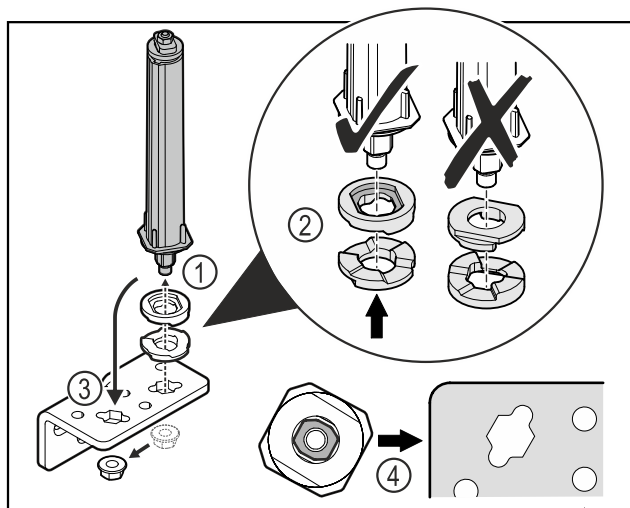

Fig. 20
- Loosen the nut and remove the door closing system Fig. 20 (1).
- Observe the correct alignment of the height adjustment washers Fig. 20 (2).
- Put the door closing system in the hinge and fix in place with the nut Fig. 20 (3).
- Observe the correct alignment of the door closing system when doing so Fig. 20 (4).